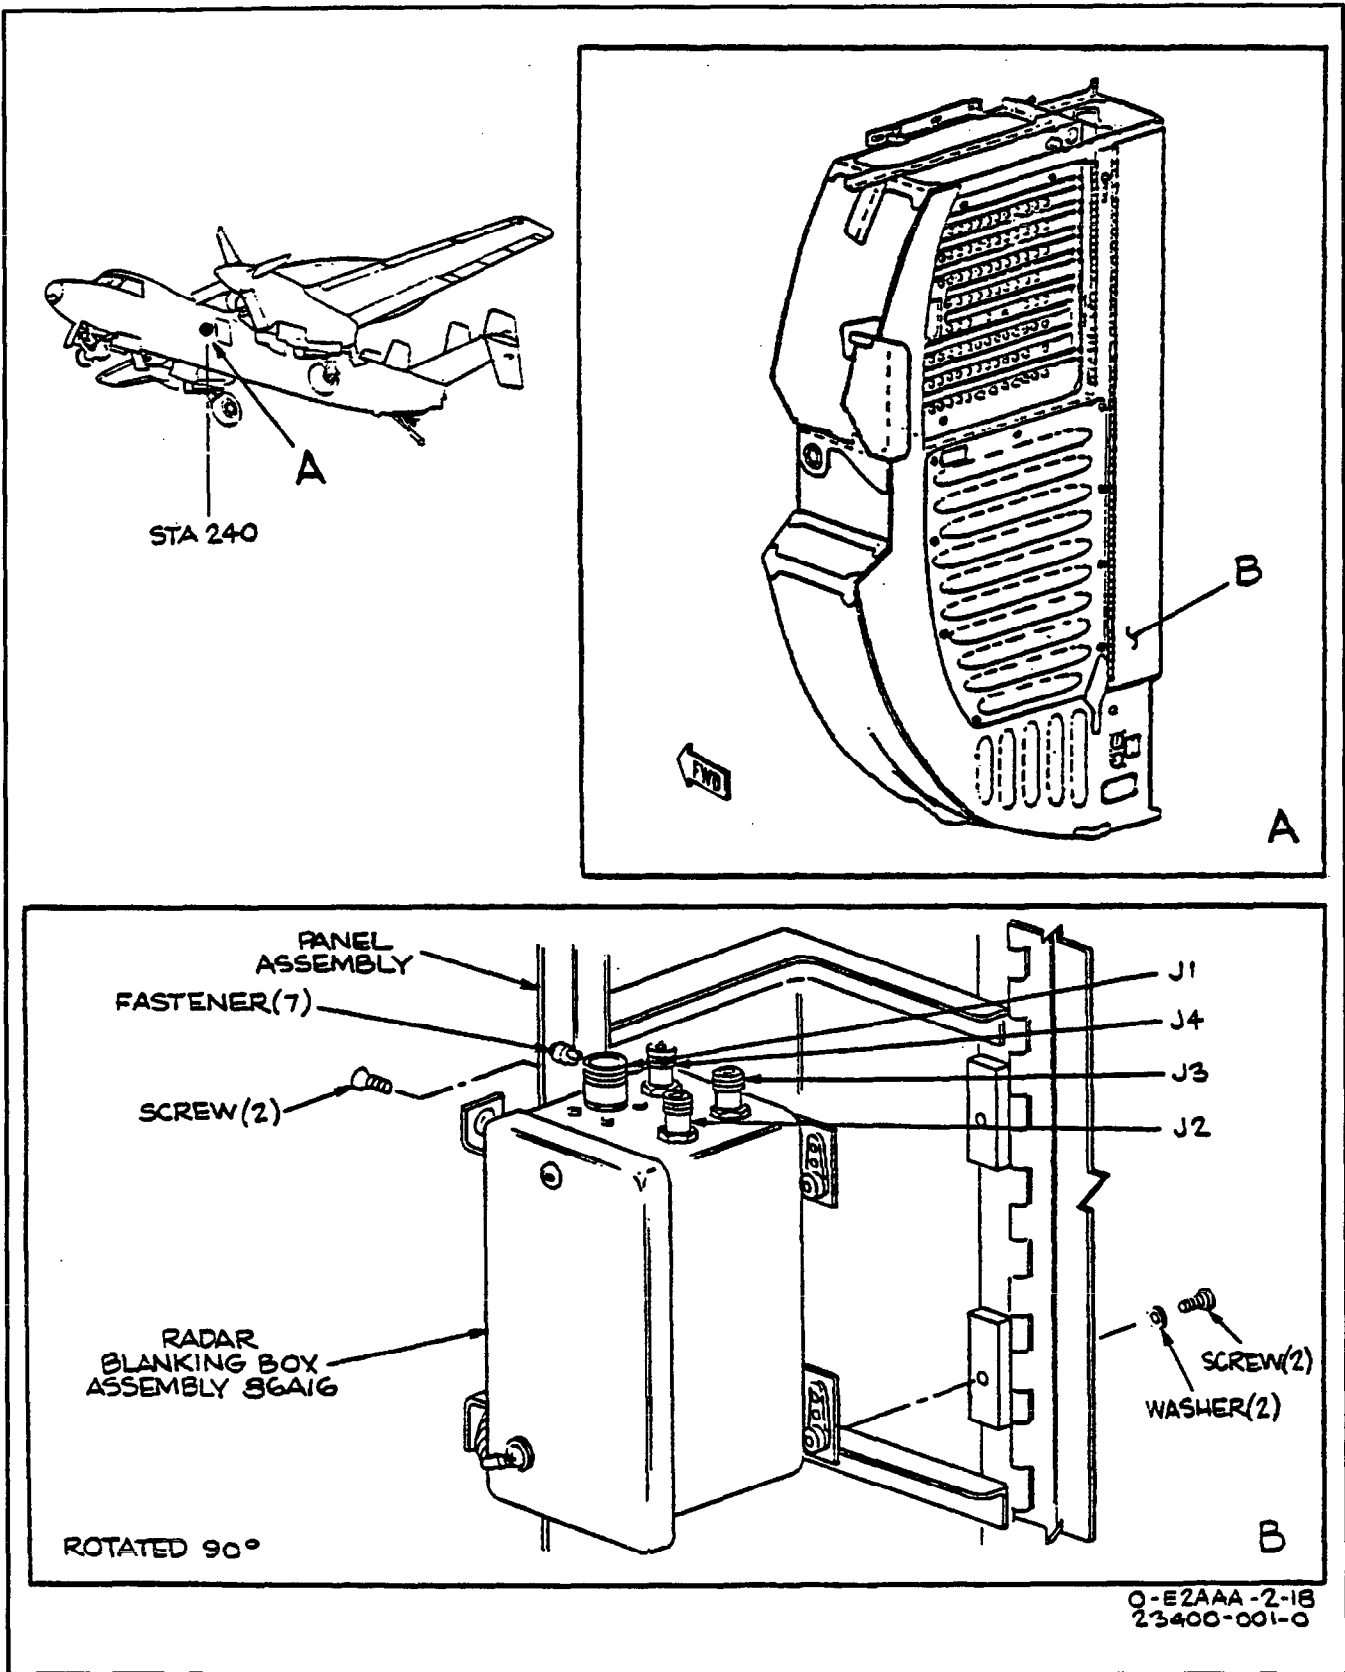

Figure 1. Removal and Installation of Radar Blanking Box Assembly
(MEJB) located in the equipment compartment. (See figure 1.)
4. **REMOVAL.** (See figure 1.)
5. **INSTALLATION.** (See figure 1.)